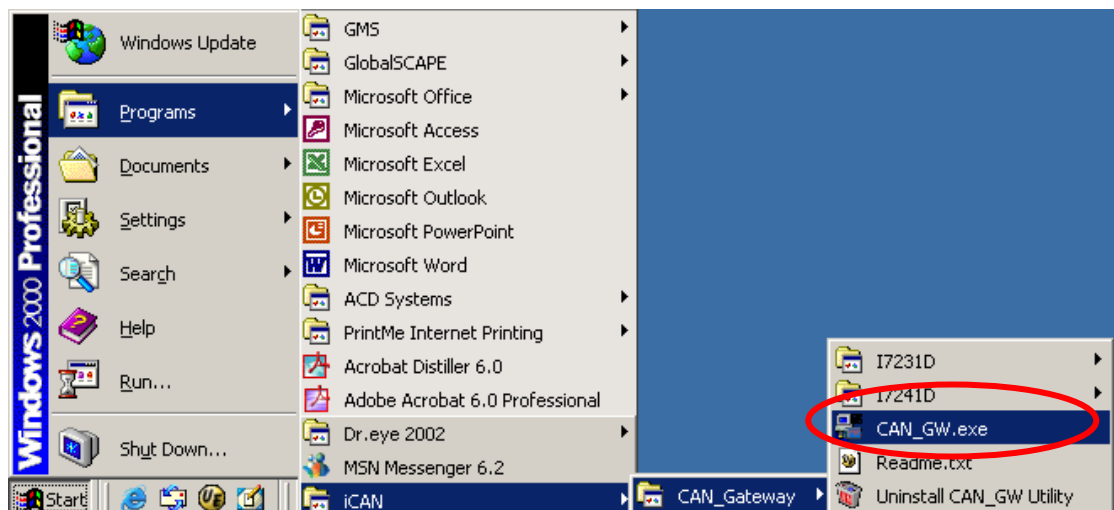

Fig 5-6. You can find “CAN_GW Utility” at Start in the task bar
Step 7: After finishing installing the CAN Gateway Utility, users can find CAN_GW Utility as following figure 5-6.